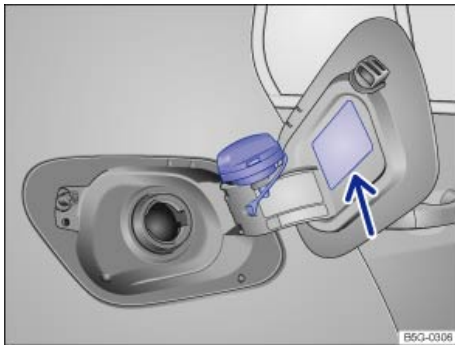

Fig. 153 Right rear side of vehicle: Fuel cap placed on the open fuel filler flap.
- Unscrew the fuel cap counterclockwise and remove. Use the slot on the fuel filler flap hinge ⇒ fig. 153 to hold the cap while refueling.
⇒ fig. 153.